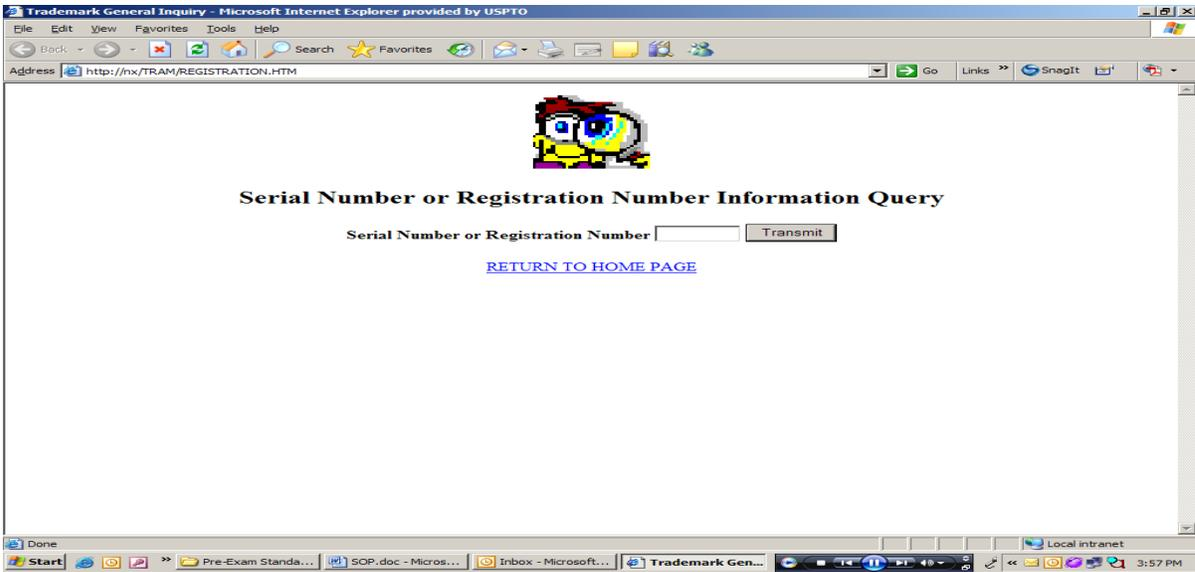

Figure 1-5 The PC TRAM Login Screen
Step 1: Double-click the PC TRAM icon on the desktop to access the login screen (Figure 1-5).